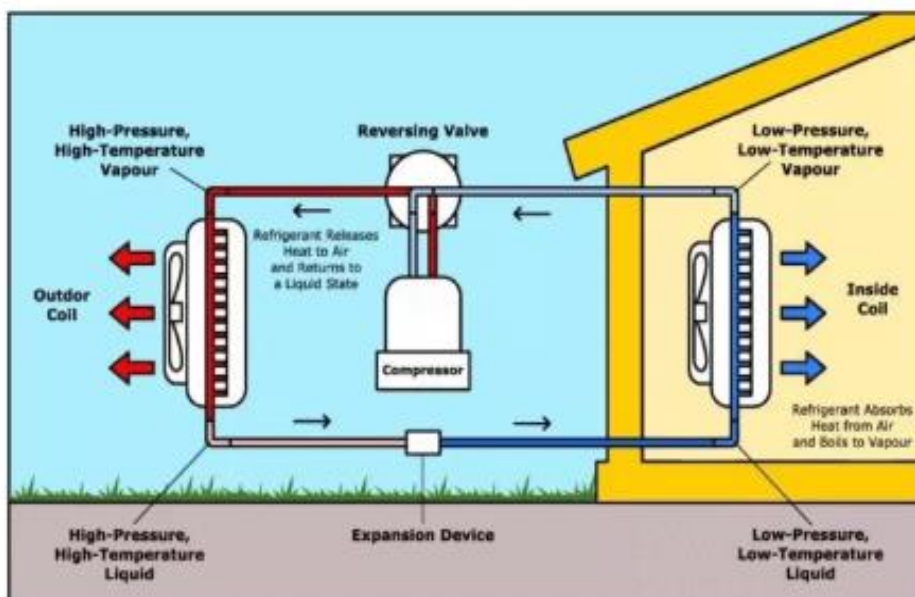

Figure 5: Split unit heat pump in cooling cycle.
2. In cooling mode (see Figure 5):